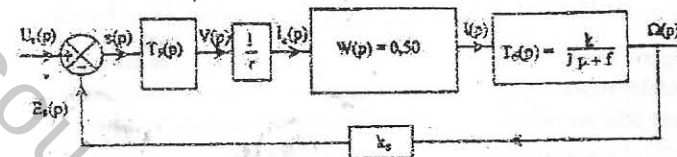
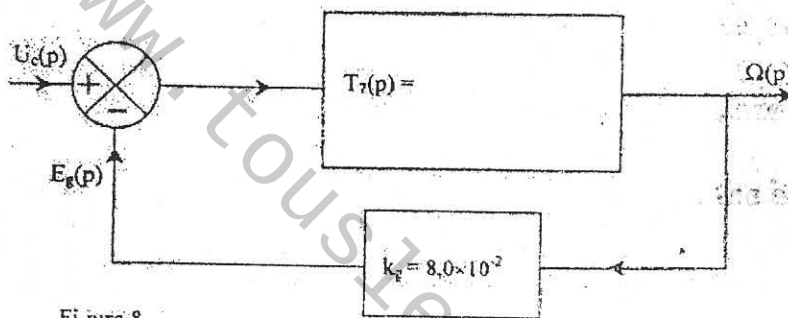

Figure 7
Figure 8
The system may be described using the block diagram of Figure 7 wherein $T_s(p)$ is the transmittance of a corrector, $r = 0.25\Omega$ is the exploration resistance of current $I(t)$ passing through the engine, the electromotive force constant k_g of the tachymetric generator with $k_g = 8.0 \times 10^{-2} V.s.rad^{-1}$ and $T_6(p) = \frac{\Omega(p)}{I(p)}$ is the Laplace transform of the control voltage $u_c(t)$.
3.2.2 By using the result from 3.1.2 and the expression of $T_5(p)$, reduce functional diagram of figure 7 to that of figure 8. Calculate numerically $T_7(p)$